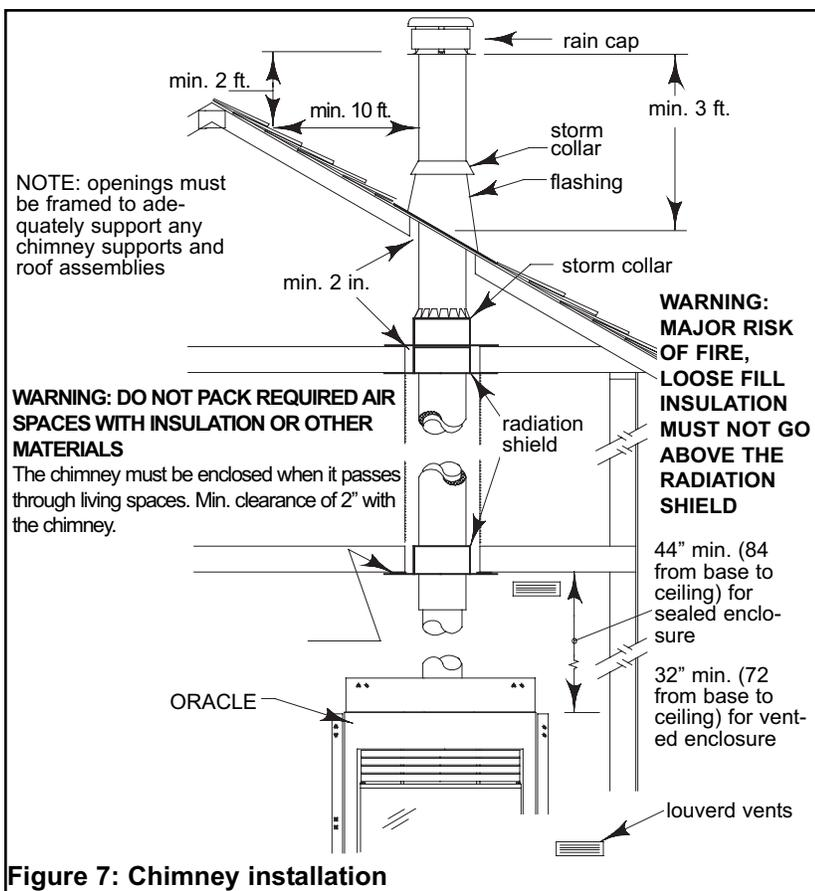

Figure 7: Chimney installation
- From below, install a radiation shield in each floor through which the chimney passes. At the attic level, install a radiation shield plus a storm collar (if required) as shown in Figure 7.